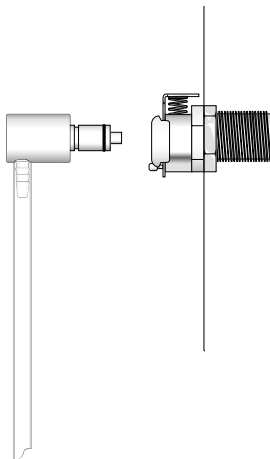

Figure B-11. Quick-Disconnect Fitting
2. Connect the open end of the Quick-disconnect fitting (see Figure B-11) to the gas inlet on the lower-left side of the system (see Figure B-12).